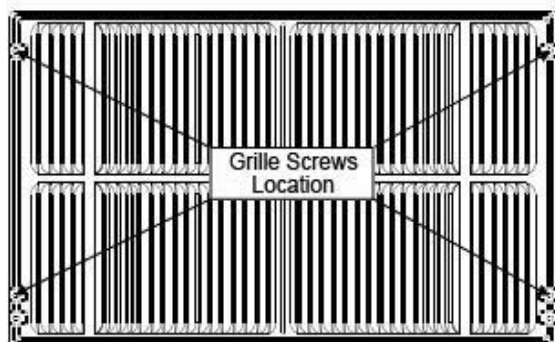

Fig. 2
4. If the unit has not been pre-drilled (some models), carefully drill 4-1/8" holes through the grille and into the side flange of the unit approximately 1 1/2" to 2" from the top and bottom as in Fig. 2, 3.